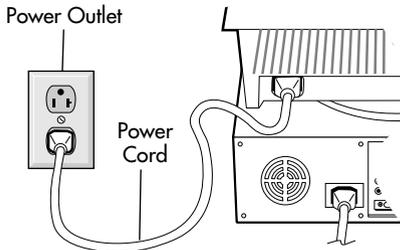

Figure C.1
7. Connect one end of the power cord to your MultiSync® monitor and the other end to the power outlet. (Figure C.1)